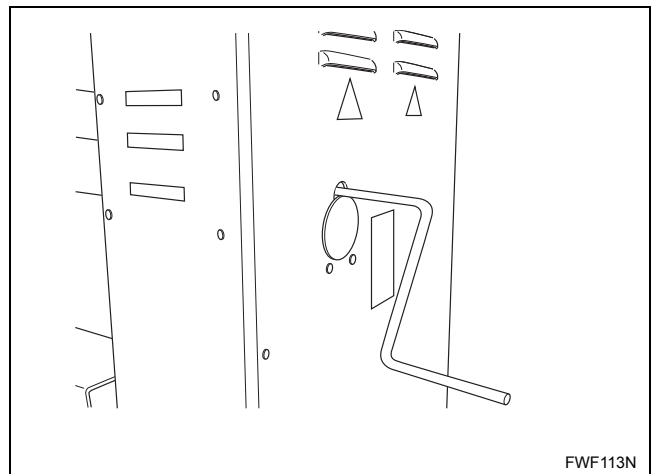

Figure 16
- c. Turn roll with crank handle. Refer to *Figure 16*.